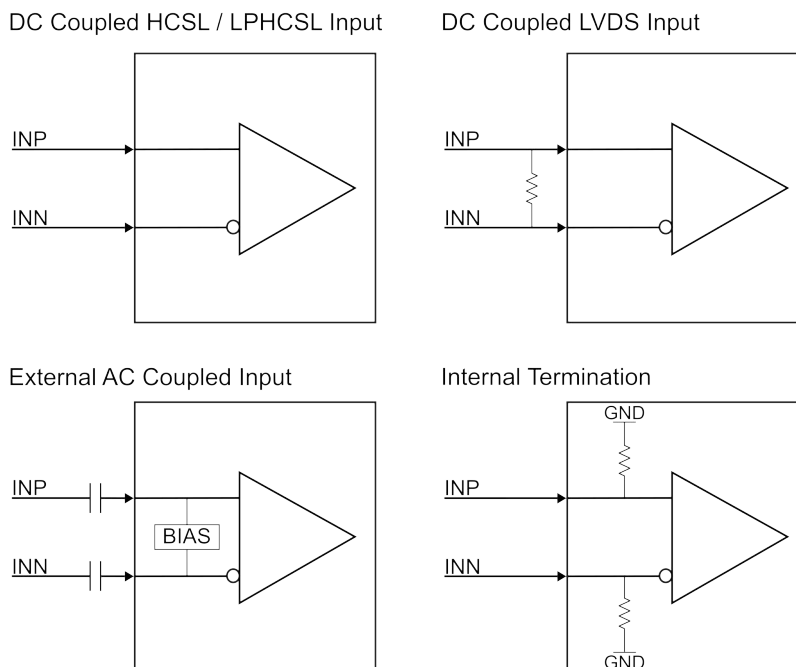

Figure 3-1. Input Interfaces
3. Connect 100MHz reference clock to CLKIN_P/N. Refer to Figure 3-1 for different input reference configurations.
LMKDB1120 can support different input interfaces depending on the input swing and common mode voltage. There are four input interfaces type that can be configured on LMKDB1120 using external components and internal termination schemes as shown in Figure 3-1. If using signal generator, then make sure to populate R34 with a 100Ω resistor or use internal or external 50Ω termination to ground.